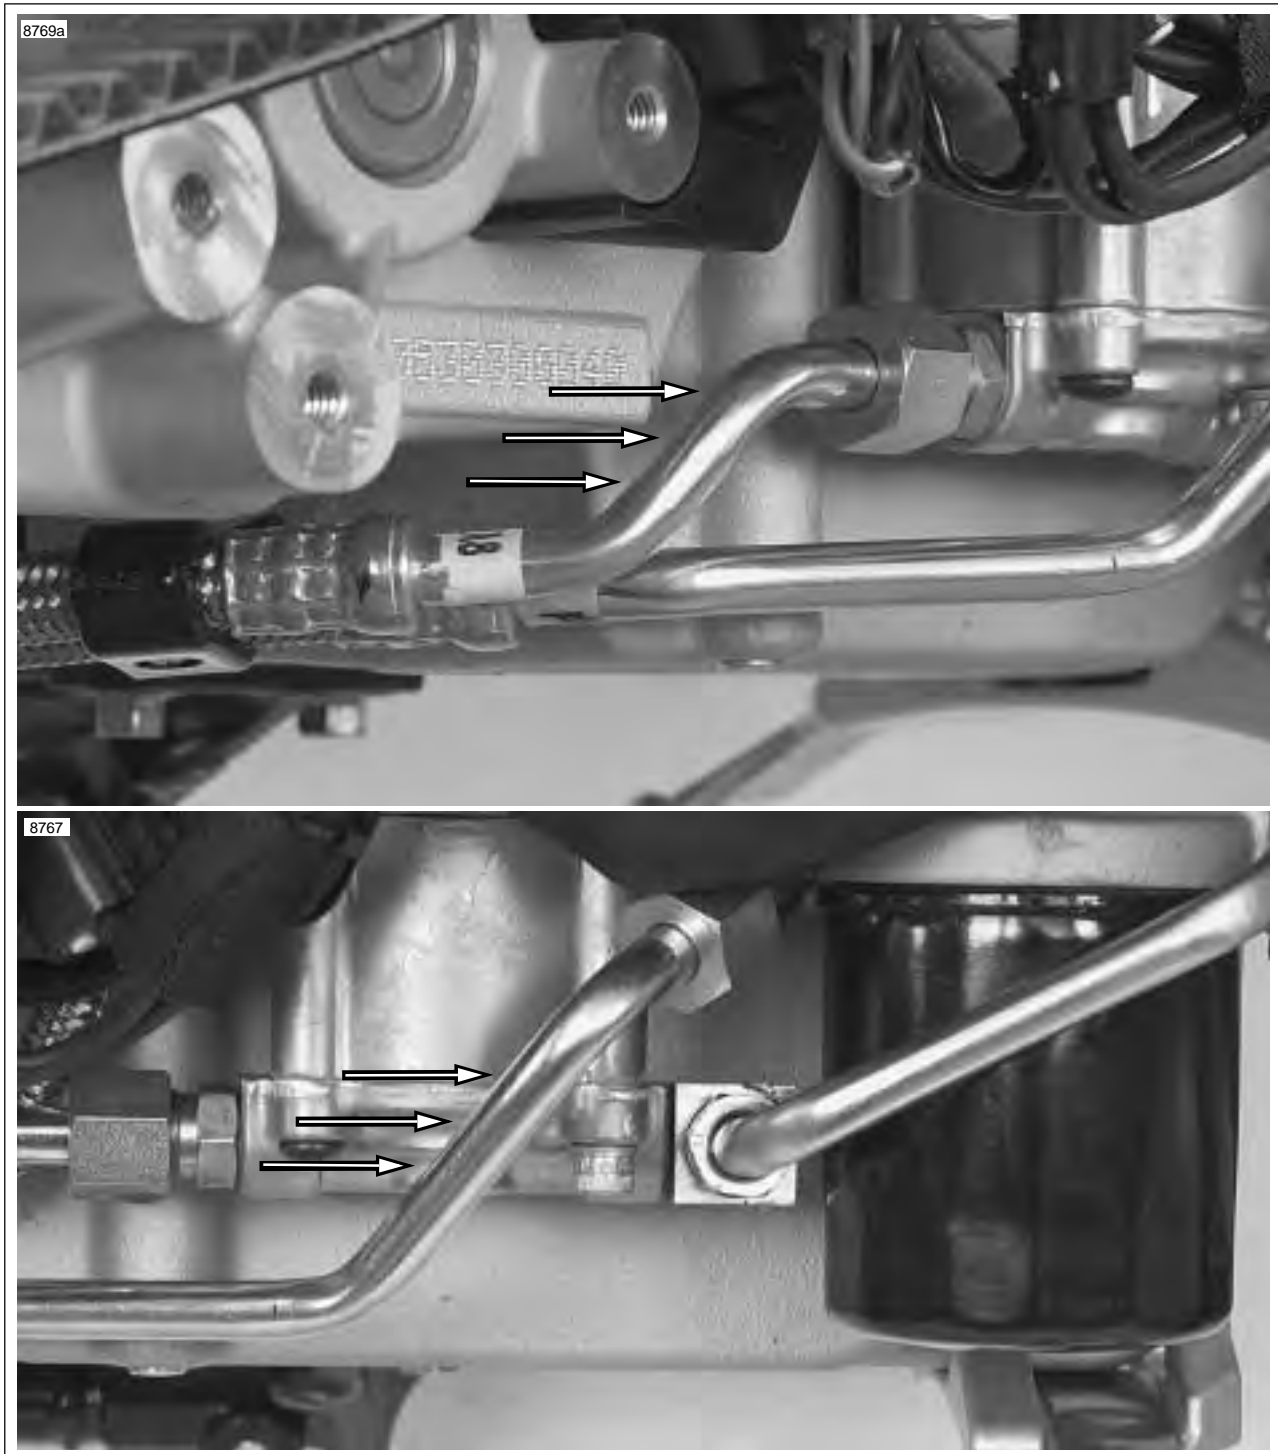

Figure 3-50. Approximate Seven O'Clock Orientation of Oil Feed Line and Oil Return Line at the Oil Pump
24. See Figure 3-50. The feed oil line at the rear of the of the oil pump should be torqued to 18-20 ft-lbs (24.4-27.1 Nm). When the oil line has been properly torqued, the orientation of the line should be approximately 7 o'clock.